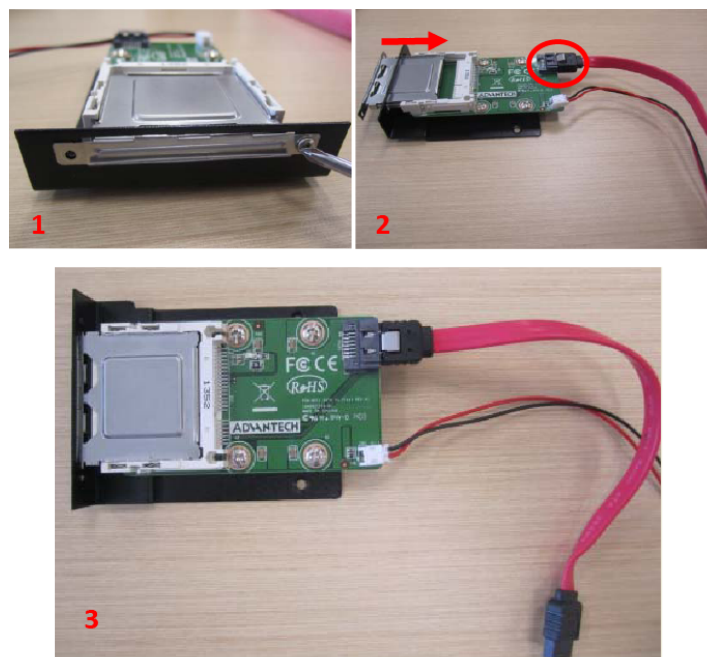
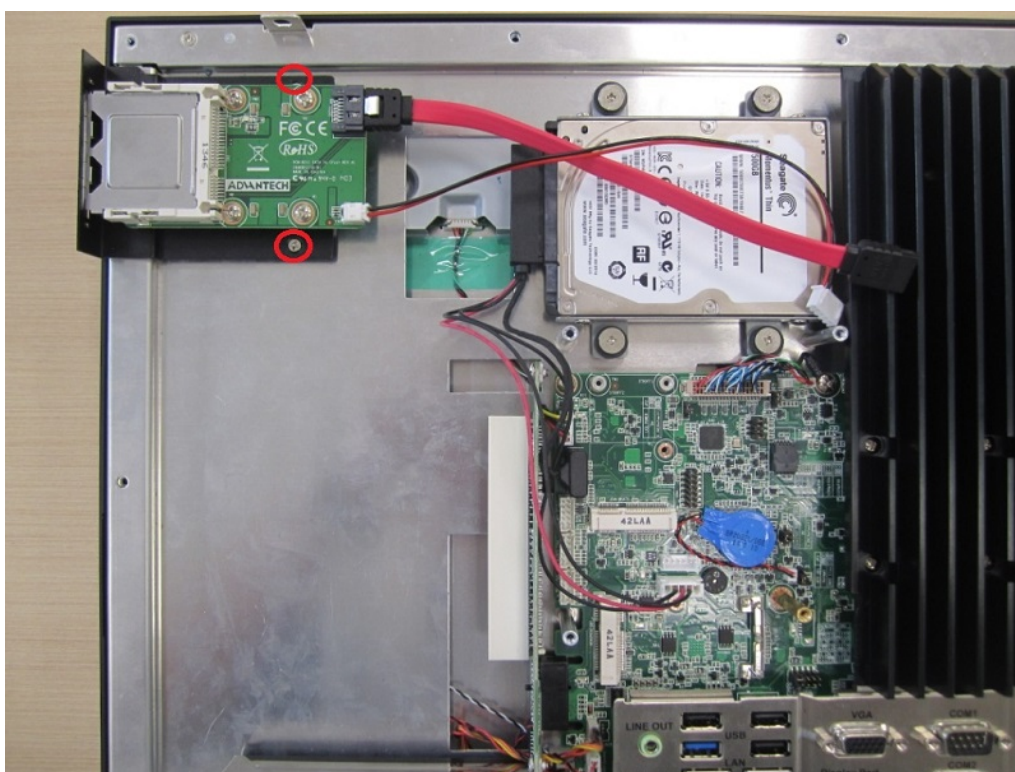

Figure 2.38
Figure 2.39
4. Retrieve the CFast module card from the module case and remove the two screws located at the side (1) of the metal tray. Affix the CFast card to the underside of the metal tray. Then insert the tray in the direction shown in Fig.2.38 (2) and connect the red SATA cable (3). The assembled CFast module should appear as shown in Fig. 2.39.